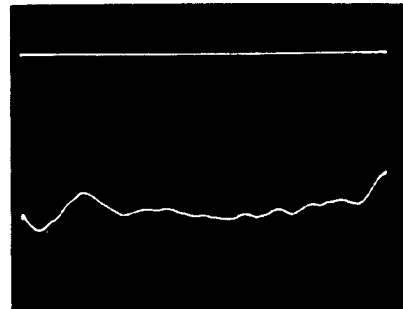

Figure 4-8. Typical Display
- Oscilloscope display should be similar to typical display shown in Figure 4-8.